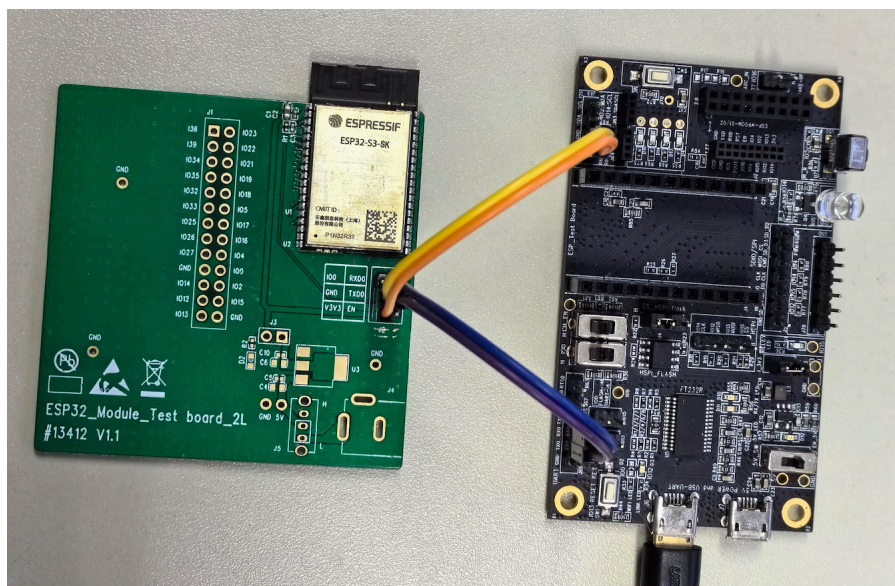

Figure 2: Hardware Connection
1. Solder the ESP32-S3-SK module to the RF testing board as shown in Figure 2.